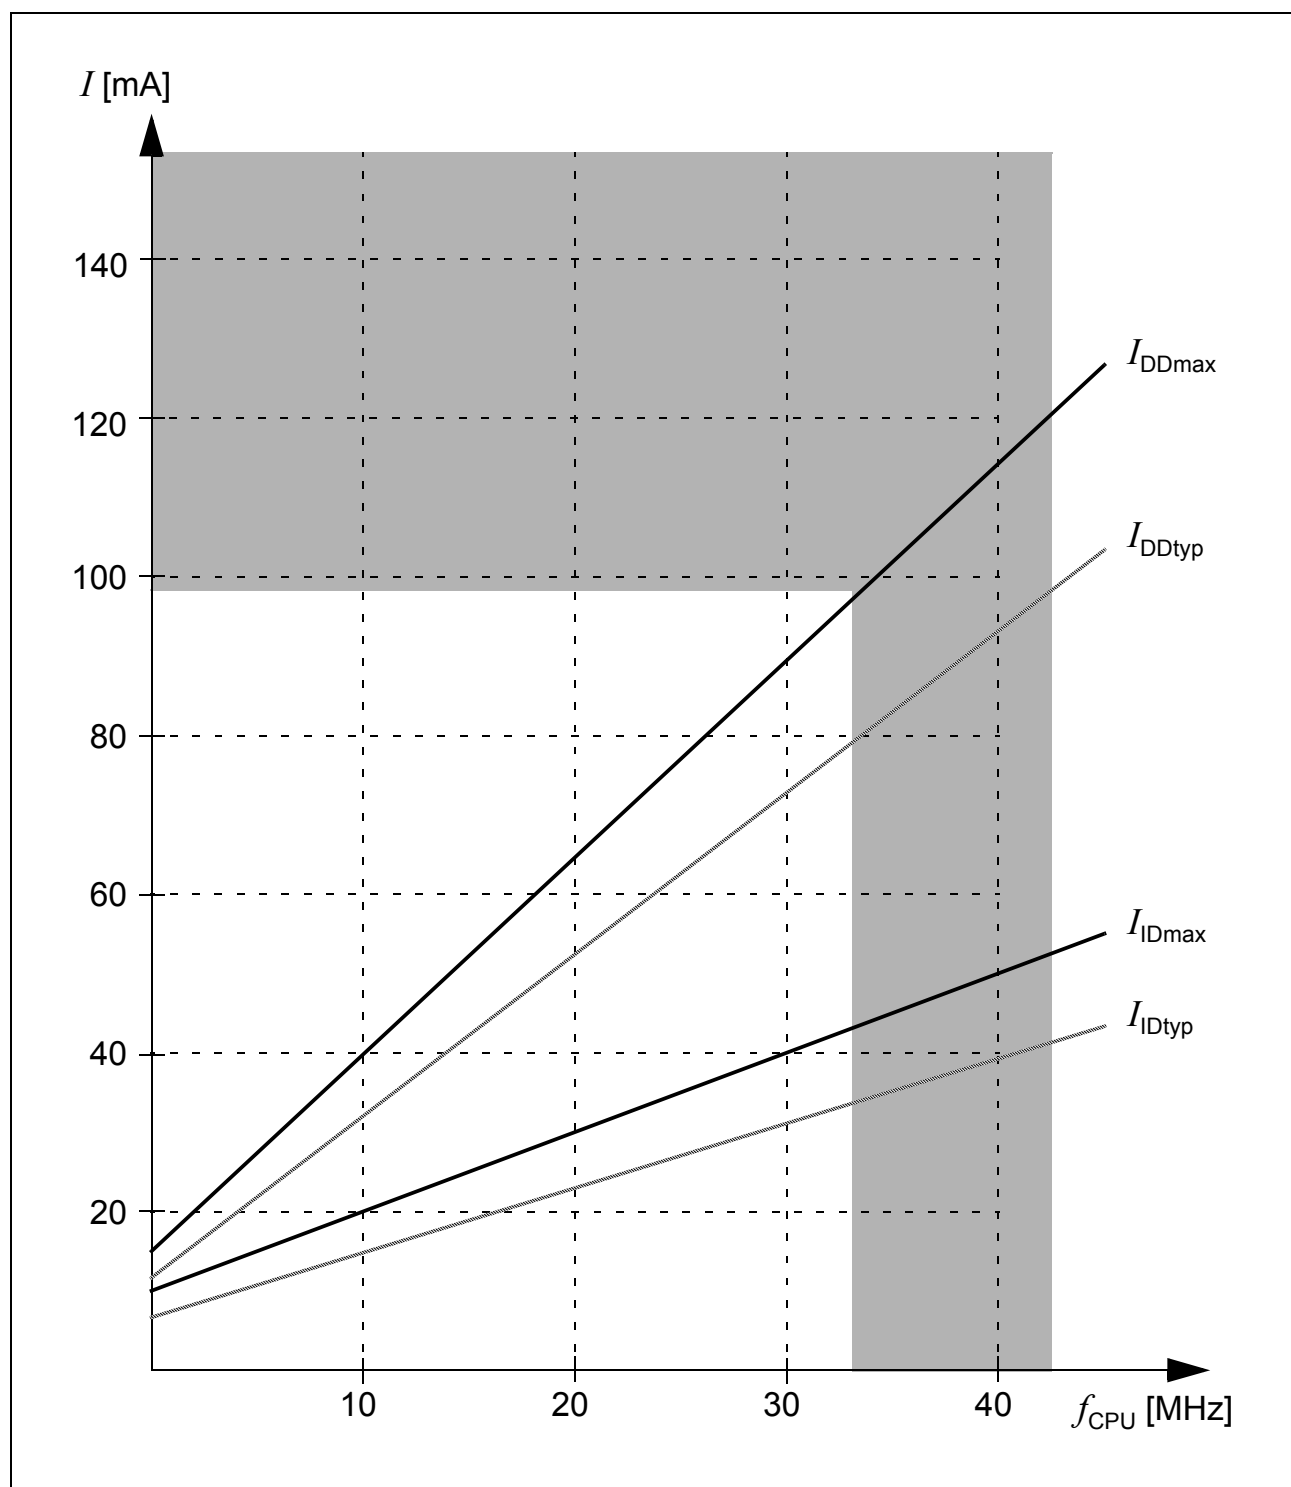

Figure 9 Supply/Idle Current as a Function of Operating Frequency
- 1) The supply current is a function of the operating frequency. This dependency is illustrated in Figure 9. These parameters are tested at V_{DDmax} and maximum CPU clock with all outputs disconnected and all inputs at V_{IL} or V_{IH} .